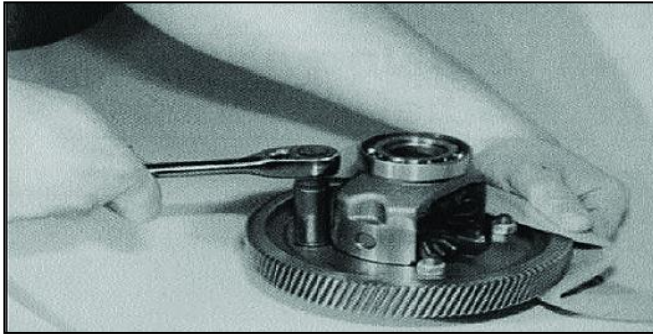

Figure 7-8
10. See Figure 7-8. Remove four bolts (16) and nuts (17) from the final drive output gear (18). Remove gear from differential case. Use care not to damage gear teeth.